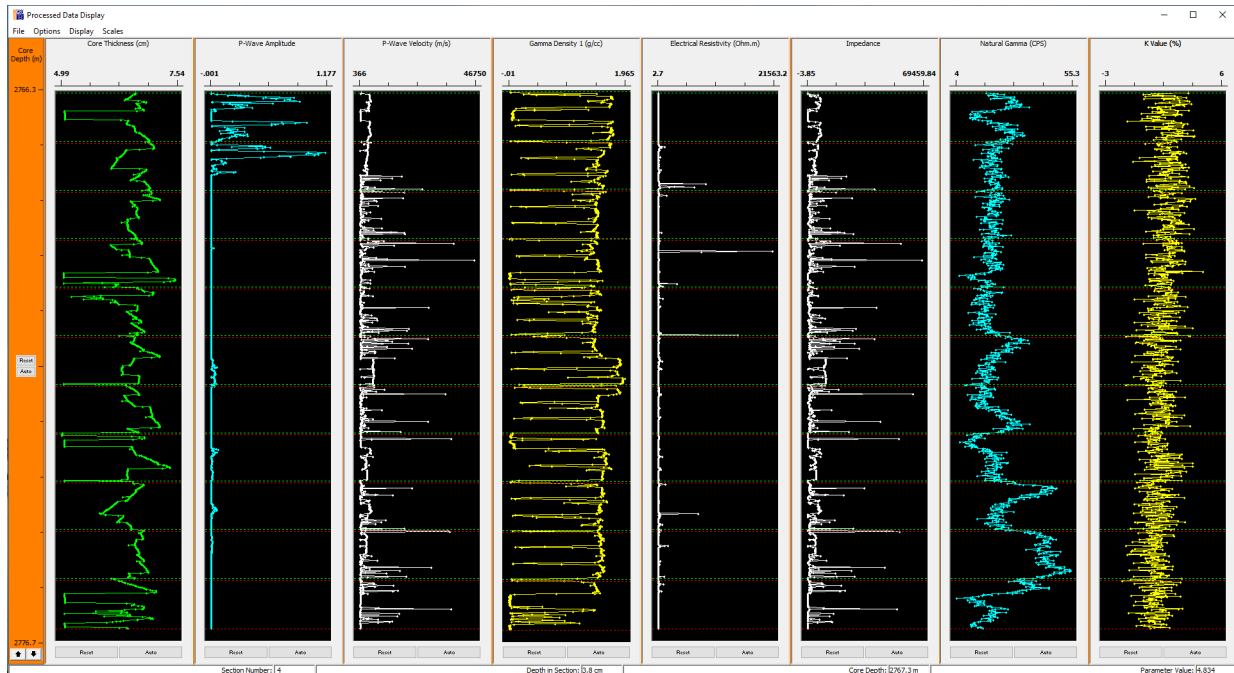

Figure 4.14: Processed Data Display panel in the MSCL-S software
- The user can also observe and process the data by selecting the processed data display, (Figure 4.14). The processed data displayed is determined by the setting entered in the processing panel ([Options] + [Processing Panel]). For information about processing parameters, see specific sensor chapters.